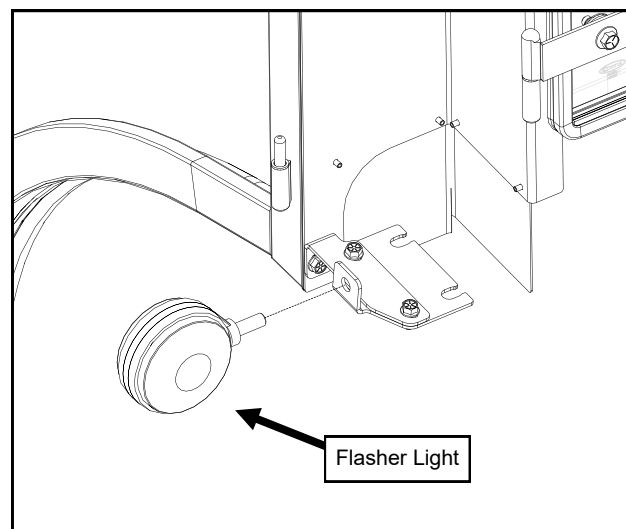

Fig. 22.1 (Relocated Rear Flashers)
- 22.1 Mount the left flasher to the new location on the rear bracket. See Figure 22.1.